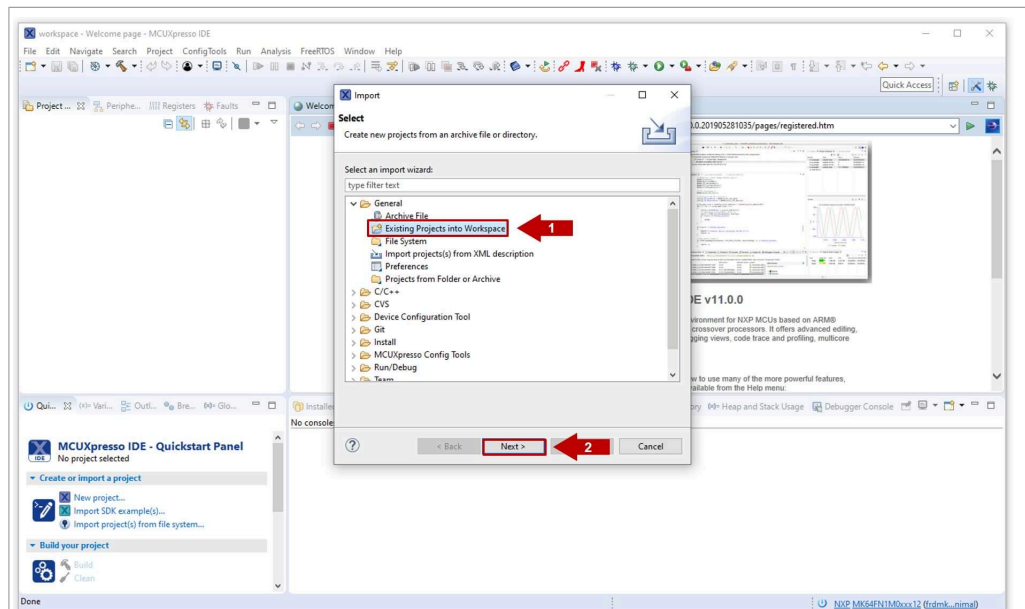

Figure 34. Import a project (II)
2. In the import wizard menu, (1) select *Existing Projects into Workspace* from the *General* folder, then (2) click on *Next* as shown in Figure 34: